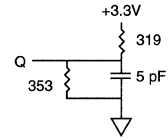

Fig. 2 OUTPUT LOAD EQUIVALENT
- ^tHZCE, ^tHZOE and ^tHZWE are specified with CL = 5pF as in Fig. 2. Transition is measured ±200mV from steady state voltage.